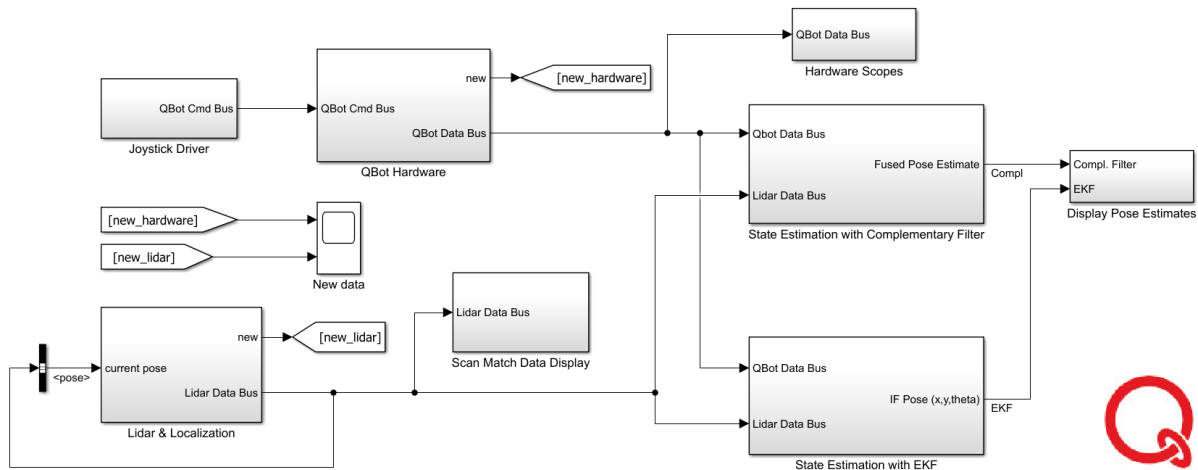

Figure 1: Sensor Fusion Simulink Model
4. Open the Simulink Model `sensor_fusion.slx`, as shown in Figure 1. Configure the model so that it can be deployed to the QBot Platform: